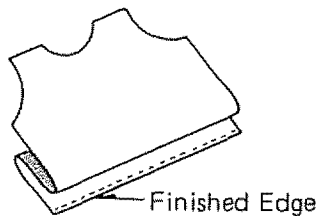

Fig. 2
Fig. 2 illustrates the folded edge stitched.
2. Fold garment away from hem leaving 1/8" of hem edge extending. (Fig. 2)
Adjust the foot so the needle is sewing through the center hole of the foot and one groove of the foot is riding on the teeth of the zipper. See Fig. 2. Follow the zipper manufacturer's instructions.